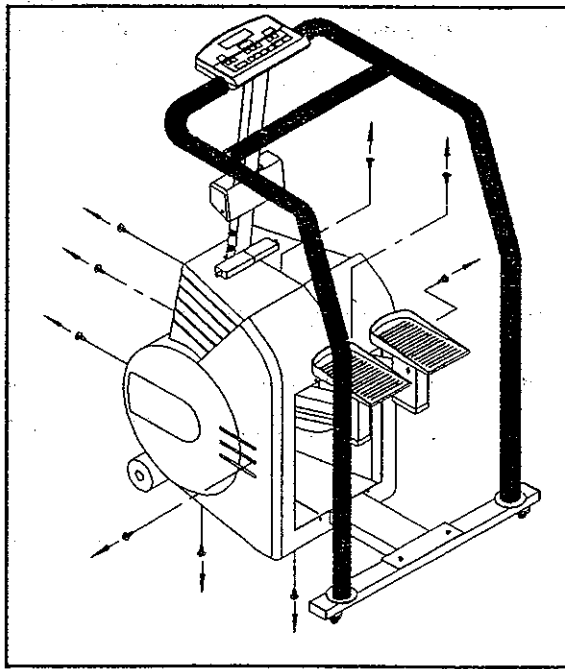

Fig. 6
5. Remove the nine screws securing the main shroud. (see Fig. 6).